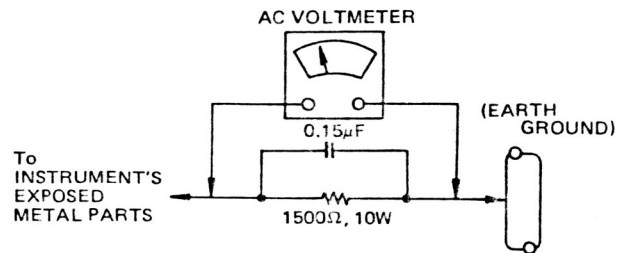

Fig. 1
- 1-5-2 Connect a 1500 ohm, 10 watt resistor, paralleled by a 0.15 μ F capacitor between each exposed metallic part and good earth ground (as shown in Fig. 1).